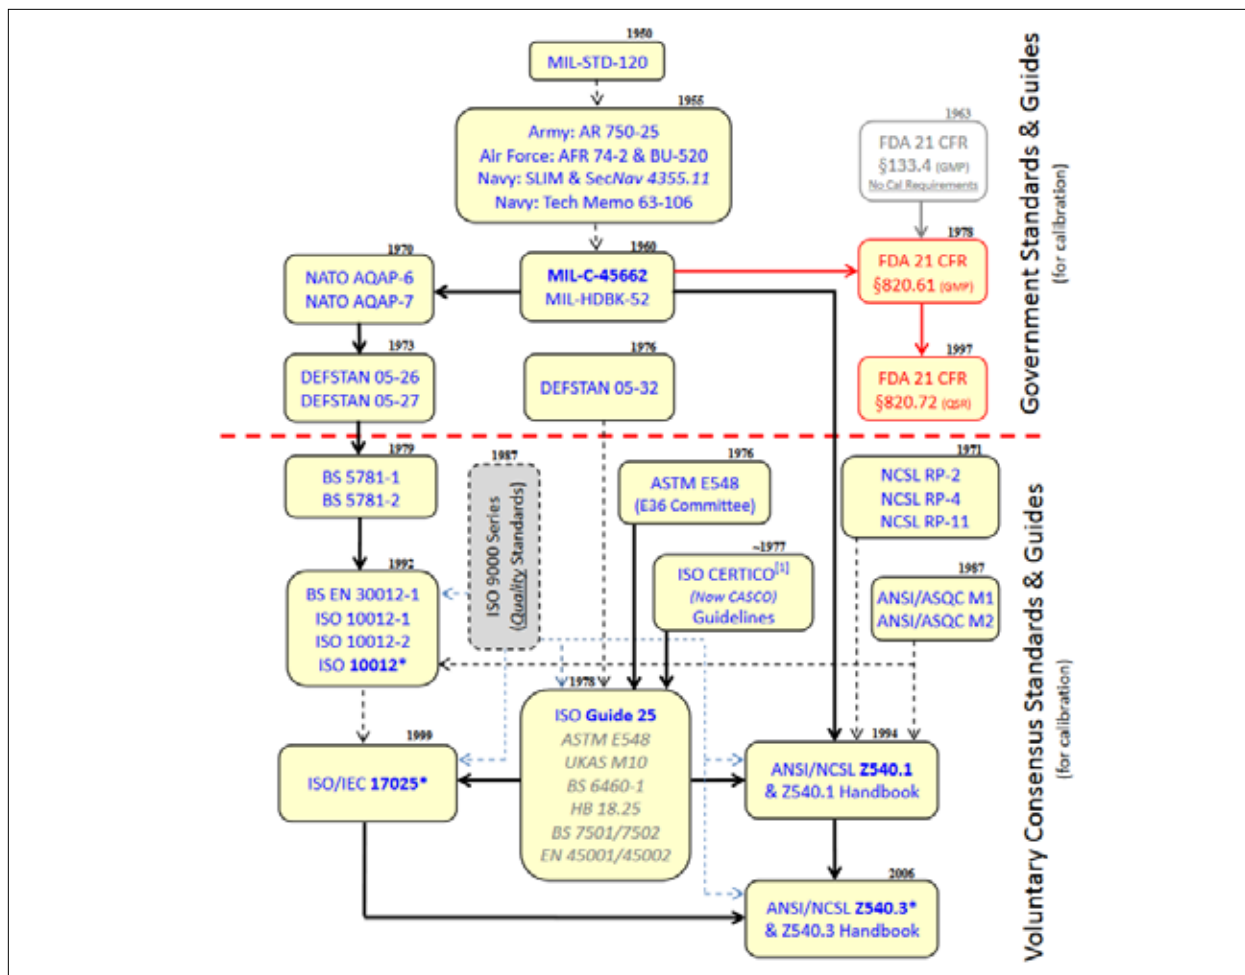

Figure 9. Simplified evolution of international and national calibration standards and guidelines. [Reese, 2016]
- Figure 1 – Simplified Evolution of International and National Calibration Standards and Guidelines, see this paper Figure 9.